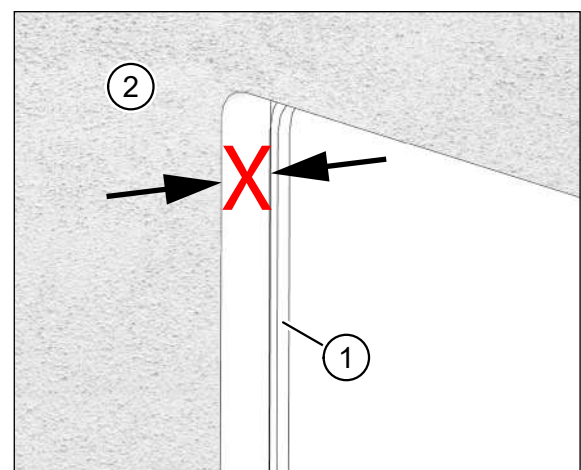

Fig. 27: Plaster protrudes over plastering trim
- The plaster (item 2 in Fig. 27) protrudes above the plastering trim (item 1 in Fig. 27).